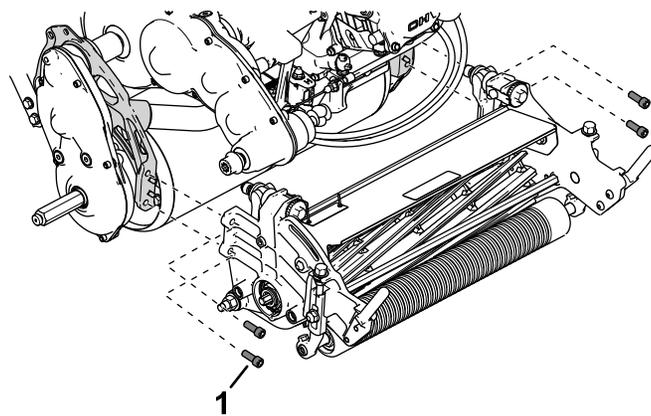

Figure 45
5. Use 4 socket-head screws to secure the cutting unit to the frame (Figure 45).